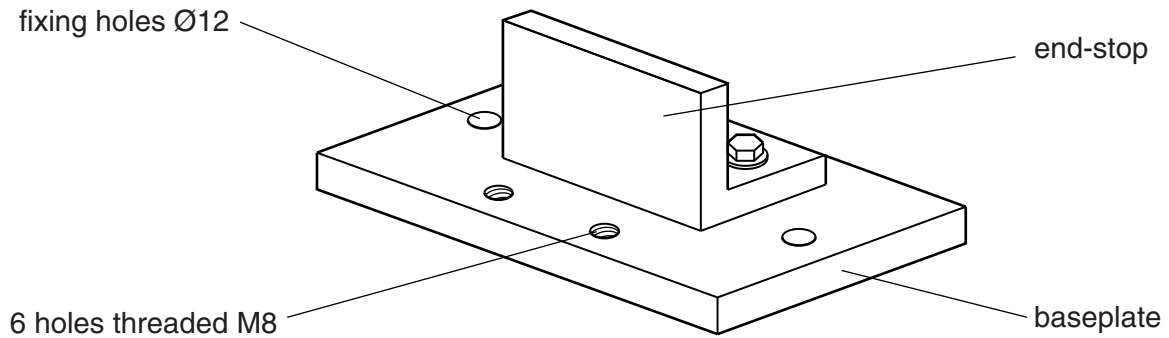

Fig. 1
- 3 Fig. 1 shows an adjustable end-stop assembly for a mechanical saw. The two parts of the assembly are made from mild steel.
- (a) Give **two** reasons why mild steel is a suitable material for the end-stop assembly shown in Fig. 1.
(c) Explain why the end-stop shown in Fig. 1 might be case hardened before use.